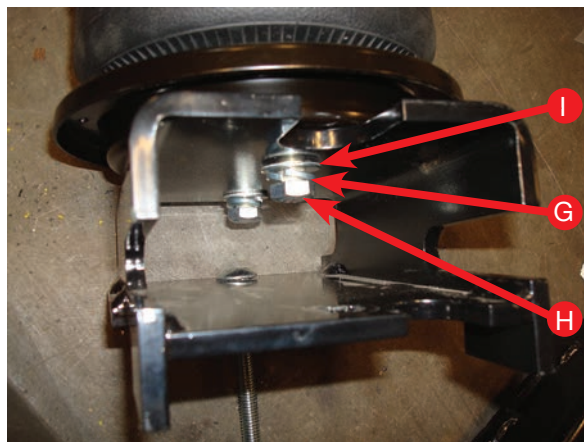

fig. 15
- Attach the lower bracket (B) to the air spring assemblies with the 3/8"-16 X 7/8" hex cap screws (G), 3/8" lock washers (H) and 3/8" flat washer (I) and tighten to no more than 20 lb.-ft. (Fig. 15).